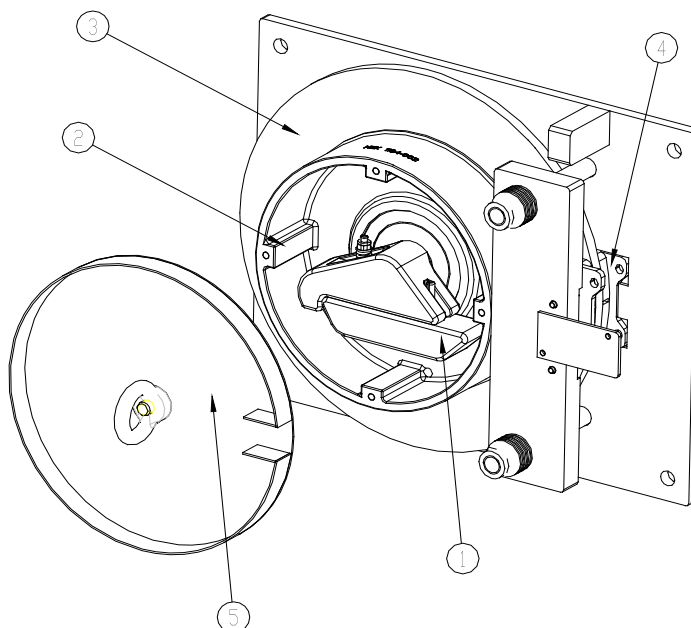

Fig.K.05. Safety device
3. Push UP button until the machine has ascended by approximately 0.5 metres. Now the tripping mechanism (1-fig. K 05), returns to the original position.